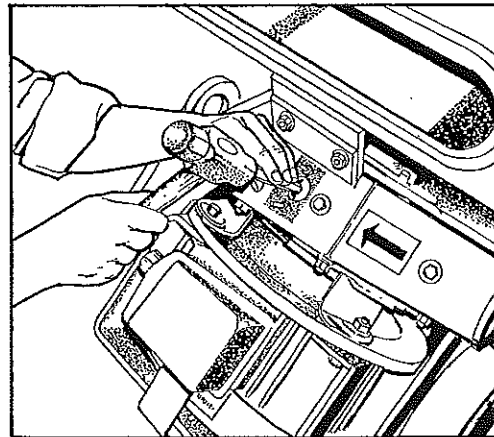

Figure 4. Drive Wheel Blade into Center of Wheel. Remove Blade.
- g. Remove inspection plate on top of wheel housing. Using a driftpin or punch drive the wheel blade into center of wheel (FIG. 4). Remove blade. Rotate wheel 180° and remove opposite blade. Repeat procedure until all blades are removed.